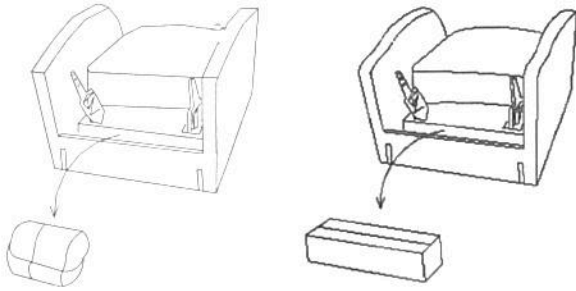

Figure 1
1. The Wooden Legs are located at the rear of seat cushion, remove all the Wooden Legs from the package or box (See Figure 1) and apply the plastic washer on top that is provided. Attached each Wooded Leg to corresponding pre-drilled holes by hand turning on clockwise direction as figure underneath(See Figure 2).